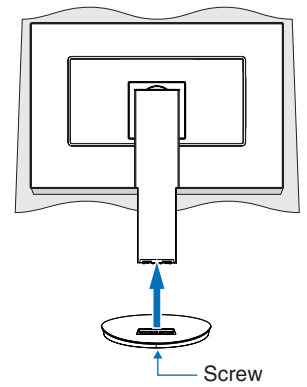

Figure 2
3. Attach the base to the stand, then tighten the screw at the base's bottom (**Figure 2**).